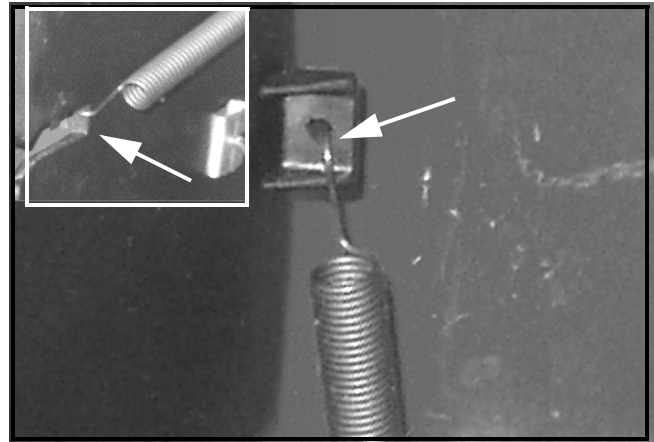

FIGURE 20
54. Hook one end of the transmission return spring onto the tab on the main baffle as shown in Figure 20. Temporarily hook the other end to the slot in the main baffle. See Figure 20 inset.